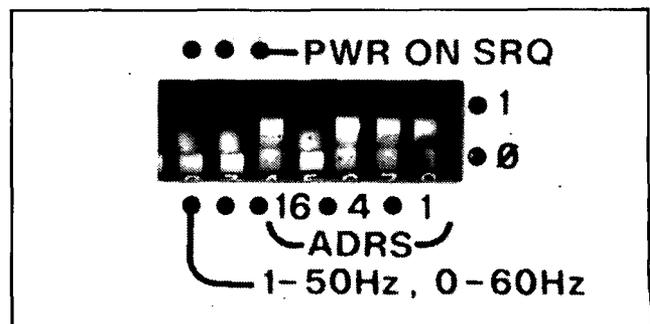

Figure 2-1. Line Frequency Switch
2.8 The Power Line Frequency configuration of the 3478A is set by the leftmost switch in the 8 section "DIP" switch on the multimeter's rear panel. Locate the switch and set the rocker to the desired line power frequency (either 50 Hz or 60 Hz). The switch is shown in Figure 2-1 (shown set for 60 Hz operation). To set the 3478's input line voltage, perform the following procedure.